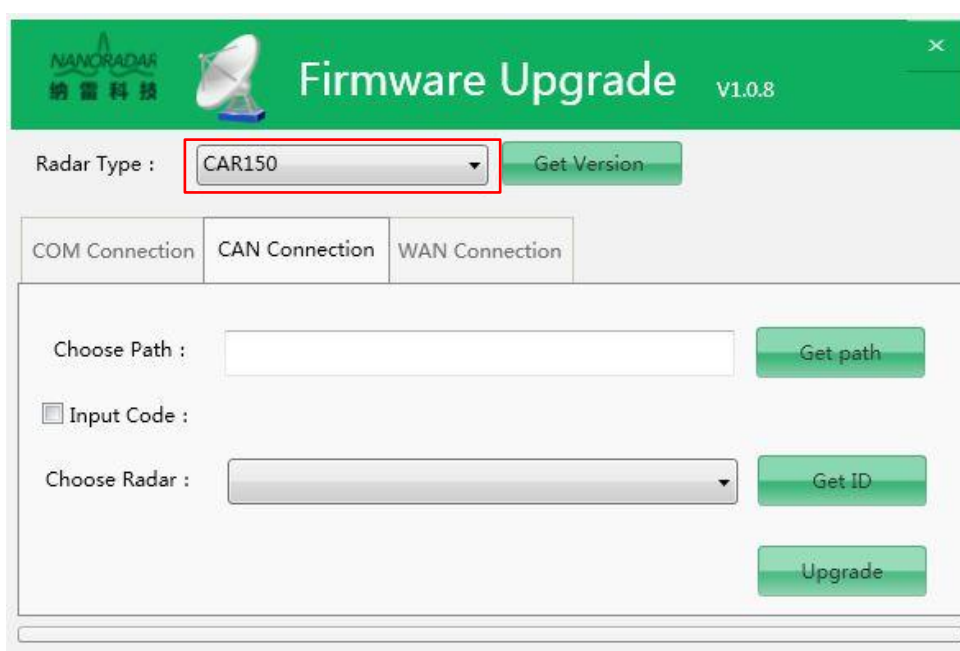

Figure 19 CAN upgrade
a) Select the upgrade radar for example CAR150, as figure 19. The radar is upgraded via CAN connection mode.